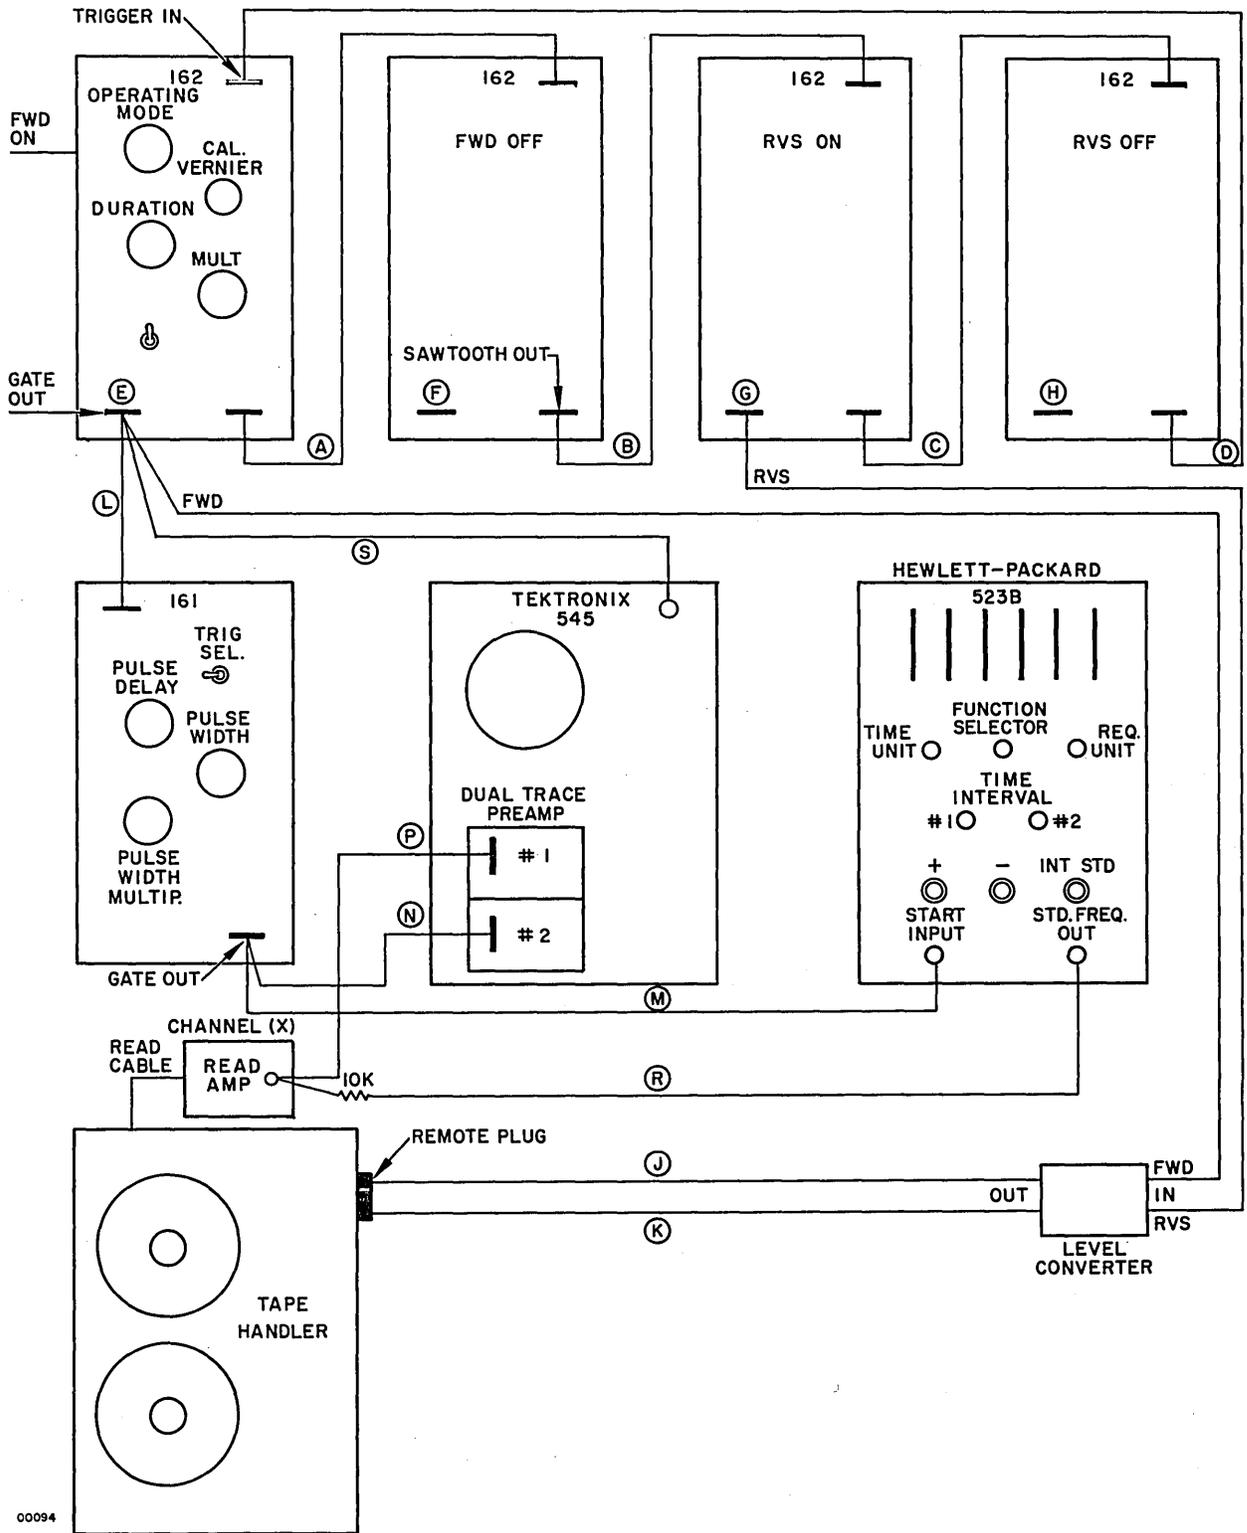

Figure 5-3. Test Setup, Start/Stop Distance Measurement
5-15. CHECKOUT FOR START AND STOP DISTANCE. Start distance and stop distance are defined as the amount of tape passing over the read/write head during the start time and stop time, respectively. The equipment is connected as shown in Figure 5-3. The following test equipment is required:
Step 1: Connect test equipment as shown in Figure 5-3 and connect waveform generators and pulse generators to power supply.
- Step 14: Connect read head cable to read amplifier and connect probe P and cable R as shown. Use 10K isolation resistor as shown in Figure 5-3.